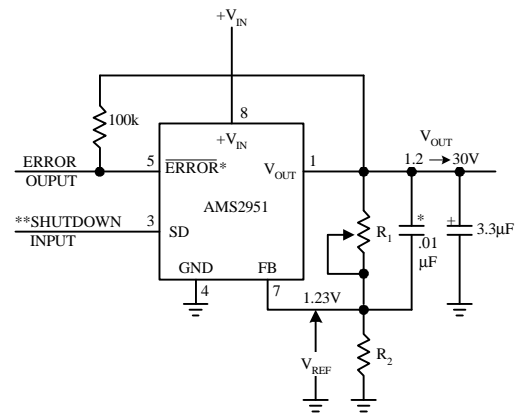

FIGURE 2. Adjustable Regulator
The AMS2951 may be pin-strapped for the nominal fixed output voltage using its internal voltage divider by tying the output and sense pins together, and also tying the feedback and V_{TAP} pins together. Alternatively, it may be programmed for any output voltage between its 1.235V reference and its 30V maximum rating. As seen in Figure 2, an external pair of resistors is required.
*When $V_{IN} = 1.3V$ the error flag pin becomes a high impedance, and the error flag voltage rises to its pull-up voltage. Using V_{out} as the pull-up voltage (see Figure 2), rather than an external 5V source, will keep the error flag voltage under 1.2V (typ.) in this condition. The user may wish to drive down the error flag voltage using equal value resistors (10 k suggested), to ensure a low-level logic signal during any fault condition, while still allowing a valid high logic level during normal operation.